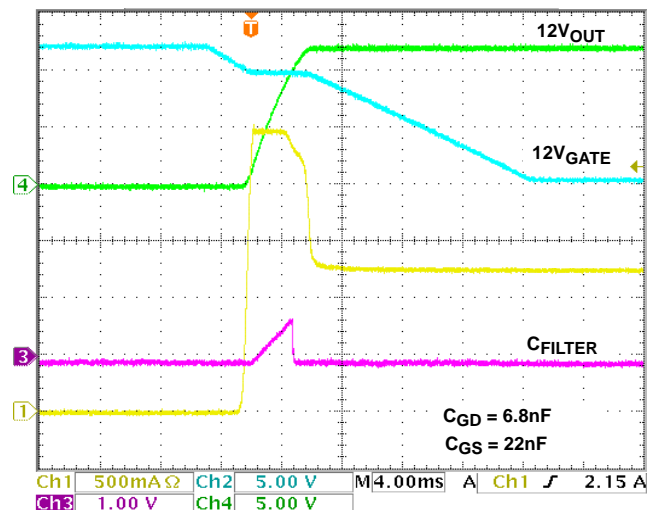
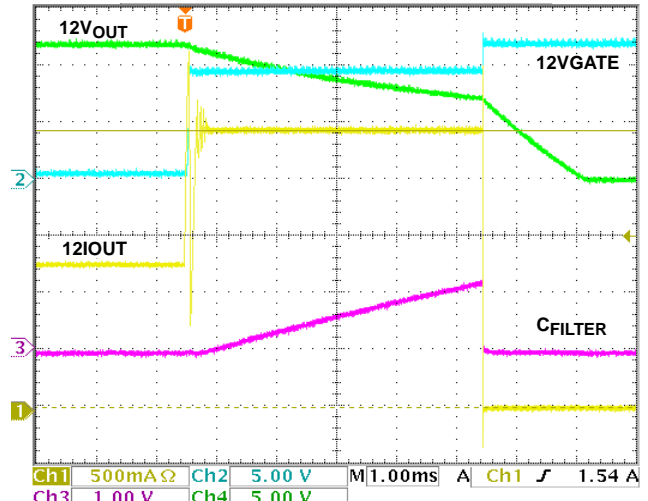
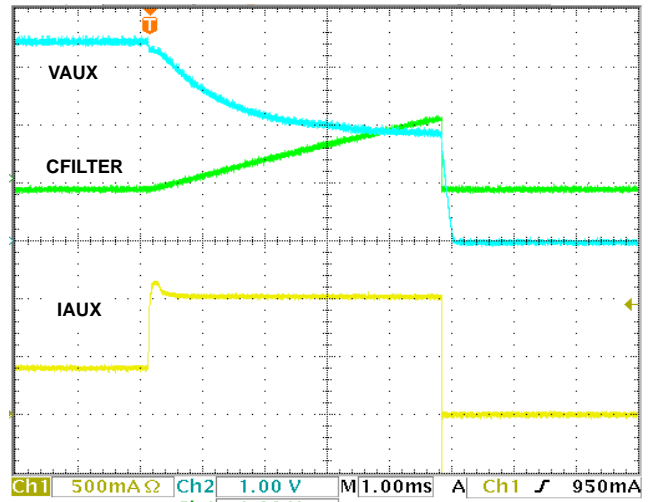

FIGURE 3. ISL6113 12VMAIN START-UP R_{LOAD} = 10Ω, C_{LOAD} = 470µF
FIGURE 12. ISL6113 12VMAIN CR AND SHUTDOWN
FIGURE 16. VAUX OC REGULATION AND SHUTDOWN
Note that all of these performance estimates and guidelines are useful only for first order time and loading expectations, as they do not look at other significant loading factors. Figures 3 through 11 realistically illustrate the discussed turn-on performance topic with the noted loading and compensation conditions. Notice the degree of control over the in-rush current and the GATE ramp rate as the C_{GD} and C_{GS} values are changed providing for highly customized turn on characteristics.
The ISL6113, ISL6114 provides a current limiting function that protects the input voltage supplies against excessive current loads, including short circuits during turn-on (MAIN supplies shown in previous Figures 3 through 11) and during static operation for both MAIN (Figures 12 through 15) and AUX supplies (Figures 16 and 17). When during static operation, any load current causes $>V_{THLIMIT}$ (nominally 50mV) drop across a sense resistor thus exceeding the programmed CR limit, the
The VAUX outputs have a different circuit-breaker function. The VAUX circuit breakers do not incorporate a fast-trip detector, instead they regulate the current into a fault to avoid exceeding their operating current limit. The circuit breaker will trip due to an overcurrent on VAUX when the programmable CR duration timer, t_{FLT} expires. This use of the t_{FLT} timer prevents the circuit breaker from tripping prematurely due to brief current transients. See Figures 16 and 17 for illustrations of the VAUX protection performance into an over current (OC) and more severe OC condition respectively. The ISL6113, ISL6114 AUX current control responds proportionally to the severity of the OC condition resulting in appropriately fast VAUX pull down and current regulation until t_{FILTER} has expired.